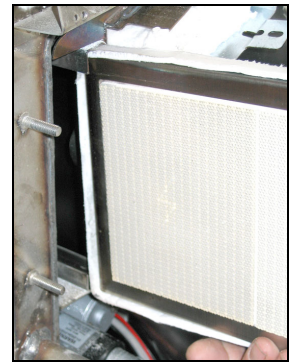

Figure 15
18. Carefully slide the replacement burner into the rails starting at the top and lifting slightly up on the bottom (see Figure 15). Ensure that the insulation is not torn or damaged.